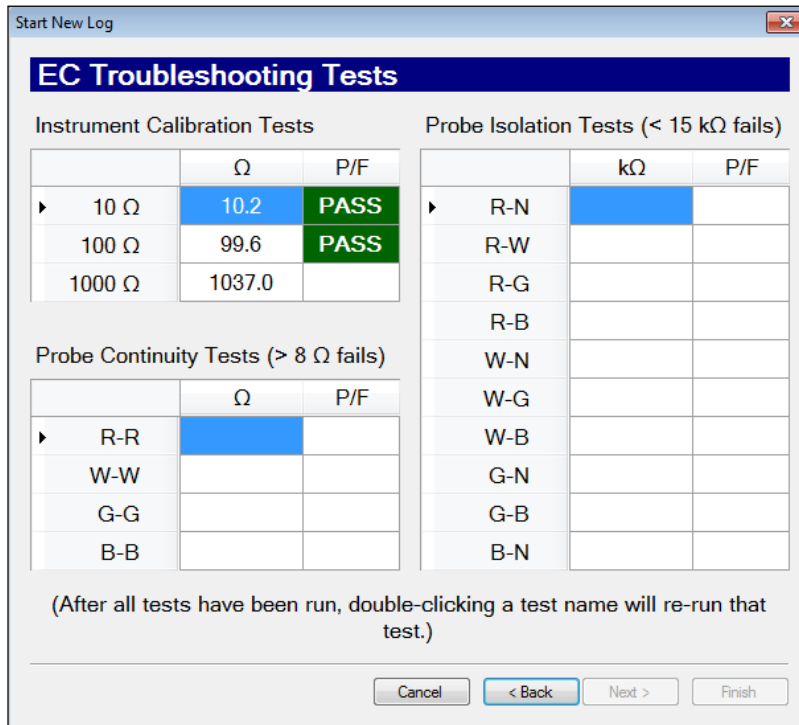

Figure 5.4: EC Troubleshooting Test Screen
5. When you get to the EC Load Test Screen and the EC test load and test jig are in place on the probe press down on the test 1 button on the test load and select “run” of Test 1 (Fig. 5.4). After 5 seconds the actual value will acquire and will pass if within 10% of the target value. Continue on with Test 2 and 3.
7. If the tests continue to fail, select “Next” and the software will conduct the “EC Troubleshooting Tests.” The Instrument Calibration Tests (Fig. 5.4) checks of the calibration within the FI6000. If these are far out of range it will influence the EC Test load values and will need to return to Geoprobe® for repair. The “Probe Continuity and Isolation Tests” confirm each of the wires is a complete circuit and is fully isolated from one another. If a probe continuity test fails just outside the target range of <8ohms this is typically a contact issue with the test jig and the dipoles. If the continuity is in the thousands of ohms this is a break in the EC wire circuit – either in the probe, the trunkline or the connection between them.